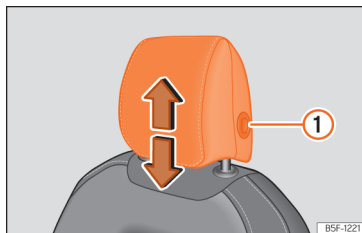
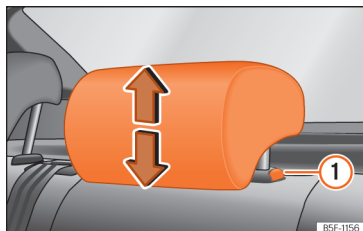

Fig. 97 Front seat: adjusting the head restraint.
Fig. 98 Rear headrest: adjusting the headrest.
- Grab the sides of the head restraints with both hands and push upwards to the desired position. To lower it, repeat the same action, pressing the button on the side **1** >>> **Fig. 97** , >>> **Fig. 98**.